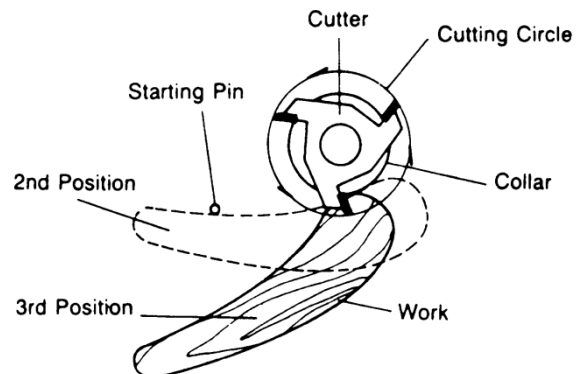

Figure 20
- After the cut has been started, the work is swung free of the starting pin and rides only against the collar as shown in the third position in Figure 20. Always feed against the action of the cutter.